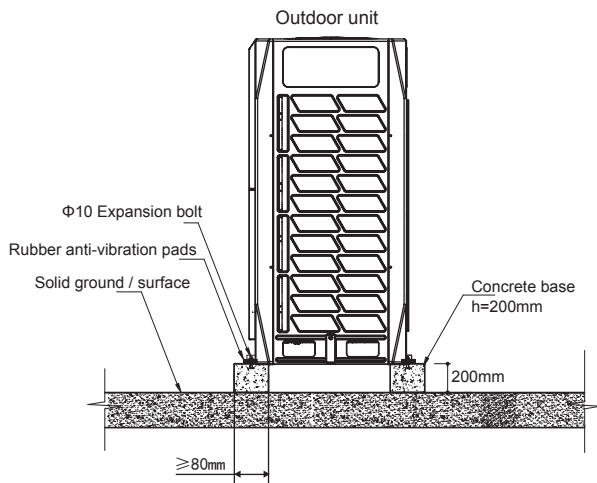

Fig. 4-11
- A typical concrete base design is shown in Figure 4-11. A typical concrete specification is 1 part cement, 2 parts sand and 4 parts crushed stone with  $\Phi 10$ mm steel reinforcing bar. The edges of the base should be chamfered.